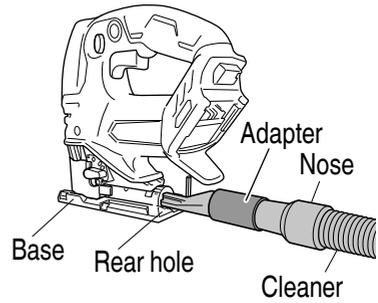

Fig. 36
- (4) Connect the dust collection adapter with adapter. (**Fig. 36**)
- (5) Connect the adapter with the nose of cleaner. (**Fig. 36**)